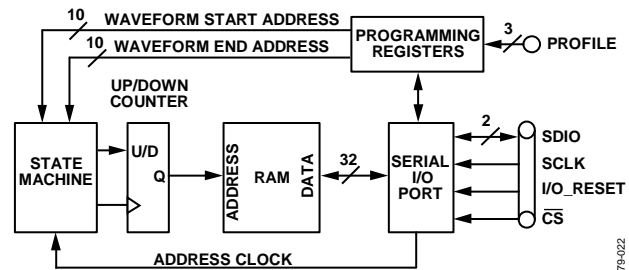

Figure 41. RAM Data Load/Retrieve Operation
3. Write to (or read from) the RAM (Address 0x16) the appropriate number of RAM words as specified by the selected RAM profile control register (see the Serial Programming section for details). Figure 41 is a block diagram showing the functional components used for RAM data load/retrieve operation.